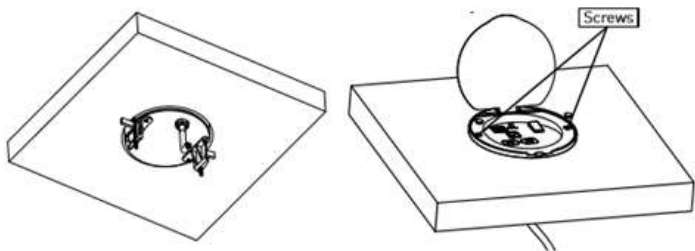

Fig. 2
- Tighten screws on top of product to secure it to the surface (see Fig. 2)